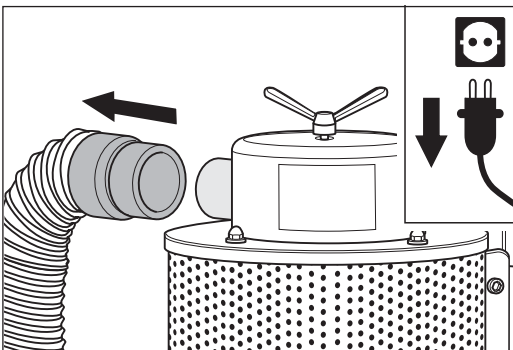

Fig. 65 Pull the suction hose from the neck of the upper part of the separator.
- 5 Pull the suction hose from the neck of the upper part of the separator (fig. 65).